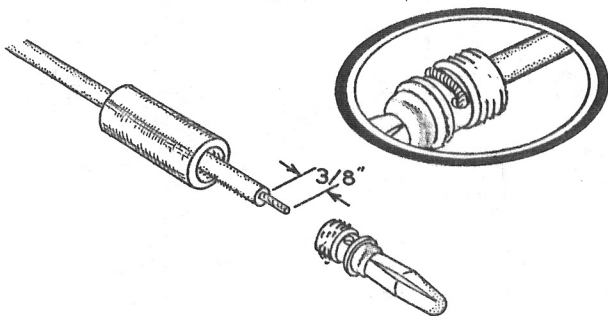

Figure 23
- ( ) Attach banana plugs to both ends of each of the twenty-four prepared leads. See Figure 23 for method of attaching banana plugs to leads.